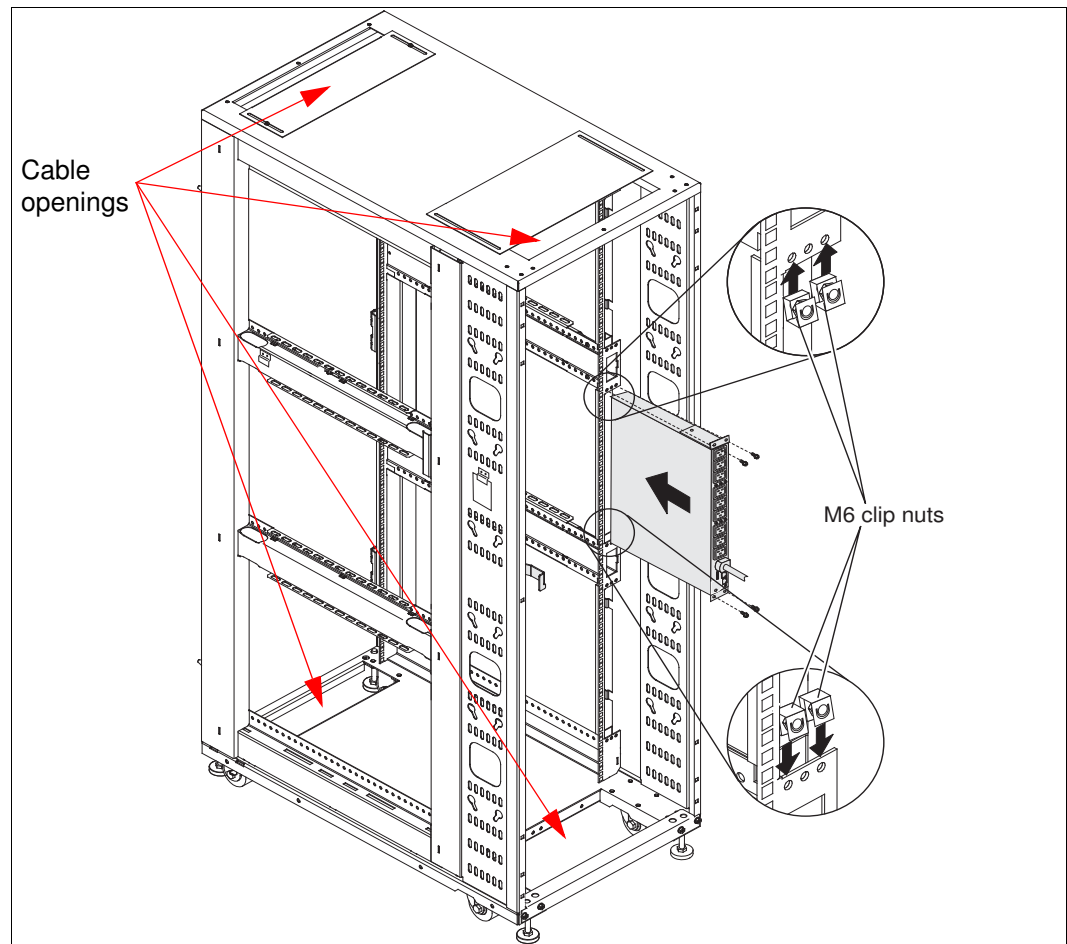

Figure 5-8 1U Power distribution unit mounted in 1U pocket on flange of rear post
The base model of the rack includes side panels. The expansion model of the rack includes the hardware that is used to join it to another rack, and no side panels. A row of racks (sometimes called a suite) can be created with one base model rack and one or more expansion racks; the side panels from the base rack are installed on each end of the row. Figure 5-8 shows joining two racks. Racks that are connected in this way match up with standard floor tile widths, which is not possible by moving the base model racks next to each other.
- Openings in the side walls behind the rear posts through which cables can be routed between racks in a row, as indicated by the arrows that are shown in Figure 5-8 on page 77. Also included are attachment points above and below these openings to hold cables out of the way and reduce cable clutter. New versions of this rack have four openings in each side wall.
Cables can be routed between racks in a row through openings in the side walls behind the rear posts, as indicated by arrows in Figure 5-8 on page 77. Also included are attachment points above and below these openings to hold cables out of the way and reduce cable clutter. New versions of this rack have four openings in each side wall.